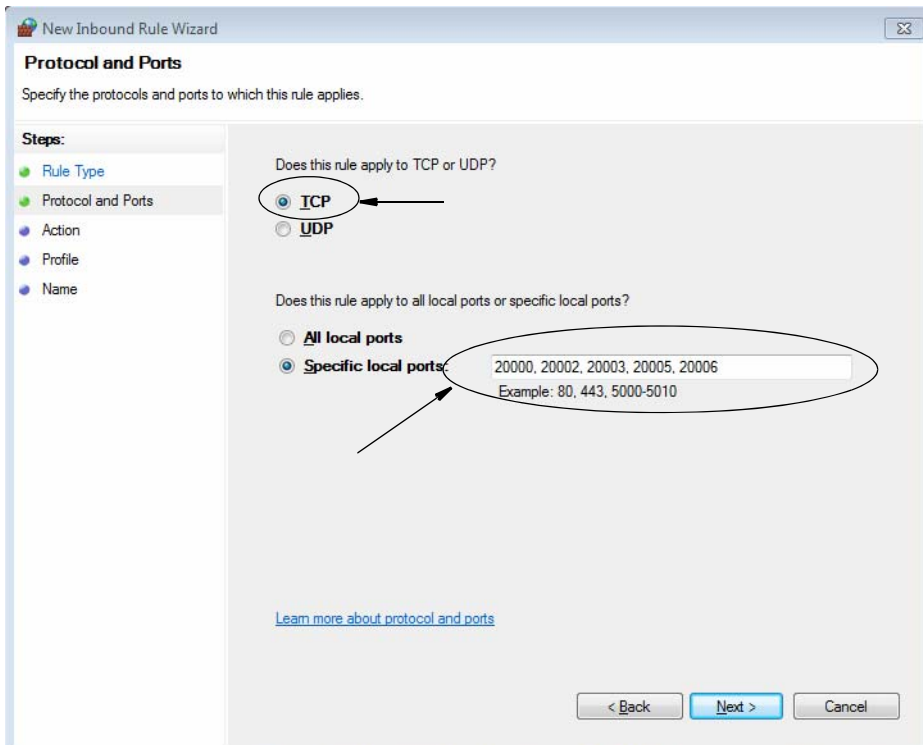

FIG. 41
- Follow the new rule wizard. For Rule Type, select Protocol and Ports and click on the Next button. For the question “Does this rule apply to TCP or UDP?” select TCP. For the question “Does this rule apply to all local ports or specific local points?” select Specific local ports: and specify the following ports - 20000, 20002, 20003, 20005, 20006 (FIG. 41).